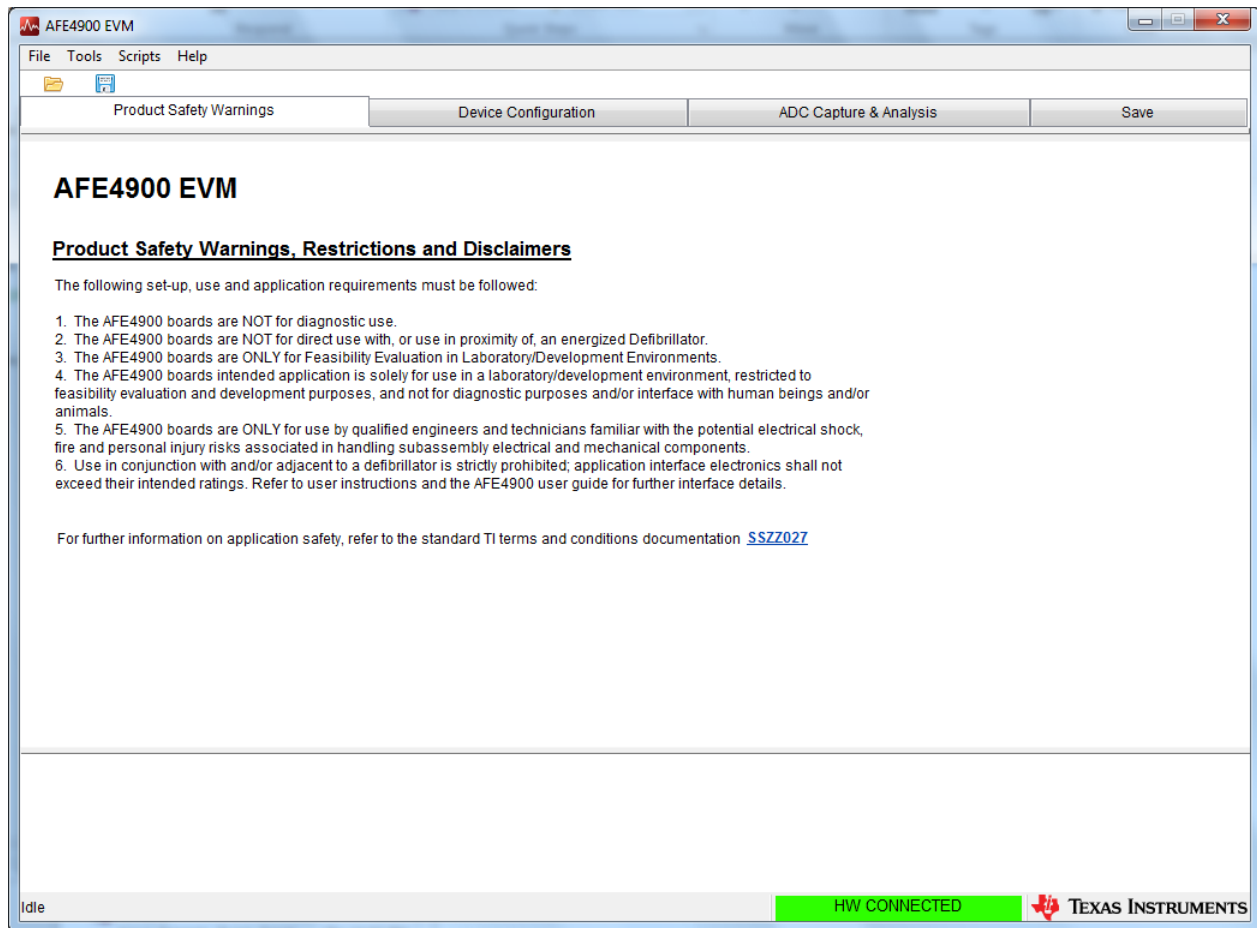

Figure 37. Product Safety Warnings, Restrictions, and Disclaimers
- *Product Safety Warnings* – Product Safety Warnings, Restrictions and Disclaimers (see Figure 37).